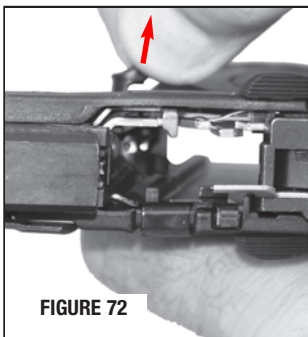

FIGURE 72
- Slide the magazine catch all the way out of the frame (FIGURE 72).